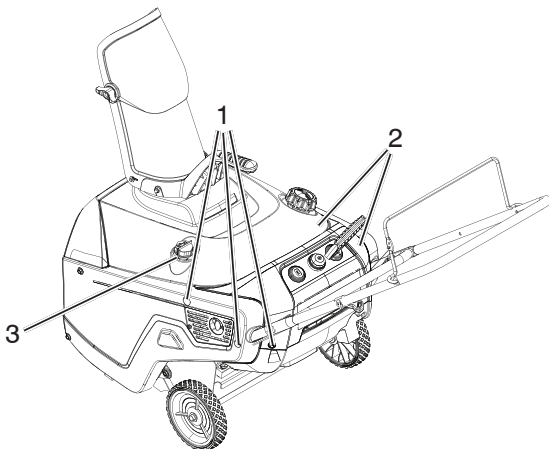

Figure 28
4. Remove the six screws that secure the shroud assembly (Figure 28).
6. Remove the shroud assembly (Figure 28).
15. Install the shroud with the screws removed in step 4 (Figure 28).